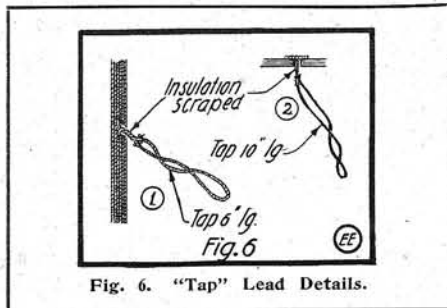

Fig. 6. "Tap" Lead Details.
The taps are made in the following order: beginning of winding, end of first turn, end of second turn, end of third, 7, 9, 12, 16, 20, 24, 28, 32, 36, 40, 44, 48, 52, 56, 60, 64, 68, 72, 76, 80, 84, 88, 92, 96, 100, 104, 108, 112, 116, 120. (1) Fig. 6 shows the method of making taps. The taps should be made in a straight line down the coil; however, the first ones should be staggered a little, so the bare wires will not come in contact with each other. Be careful in scraping the insulation where the taps are twisted (see Fig. 6) not to cut the wire. By scraping the wire in this way losses from taps are minimized. Leave a good 6 inches for connections to the switch. It is well to run a little sealing wax over the wire where the taps are made. When the winding is complete fasten the end through two holes as before, leaving enough for connection. Next, cut up four strips of thin cloth, 4 inches by $\frac{1}{2}$ inch, and soak them in fairly thick shellac. Then lay them lengthwise on the winding, 90 degrees apart. Cut off the ends of the cloth even with the ends of the tube; do not turn them under. This
26 double silk-covered wire is required for the secondary coil. The taps (see (2) Fig. 6) are made differently. Instead of coming from the outside, they must come from the inside of the core. Beginning 1/16 of an inch from the end of the secondary core, mark off 3/10 of an inch 10 times. At these points make holes just large